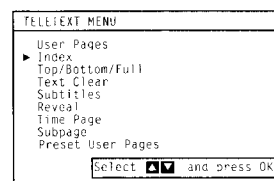

Fig. 36.
- 2 Using $\Delta+$ or $\nabla-$, select the teletext function you want and press OK. (See Fig. 36)